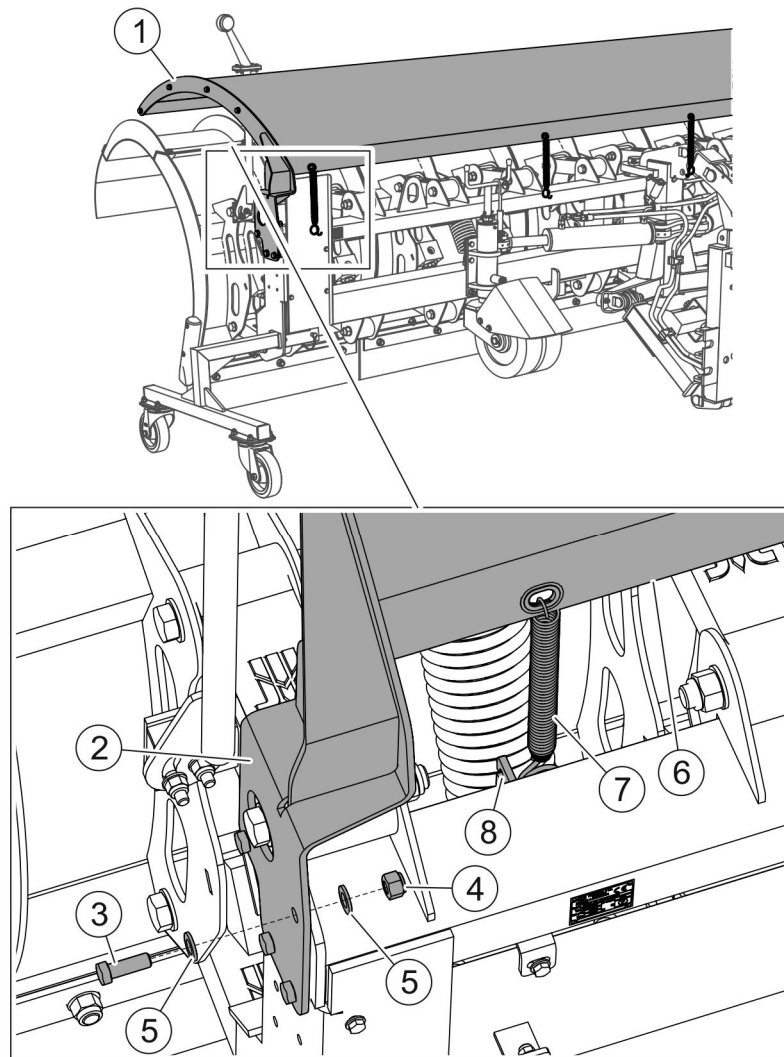

FIGURE 5.6 Installation of shield protecting against snow dust.
(1) – shield protecting against snow dust;; (2) – shield bracket; (3) - bolt; (4) - nut; (5) – washer; (6) – shield tarpaulin cover; (7) – spring; (8) – spring bracket.
The snowploughs can be optionally equipped with a shield protecting against snow dust (1) (FIGURE 5.6). To install the shield, attach brackets (2) to the snowplough frame using eight bolts (3) on both sides of the shield. After attaching the brackets (2), tighten the shield tarpaulin cover (6) using spring (7).